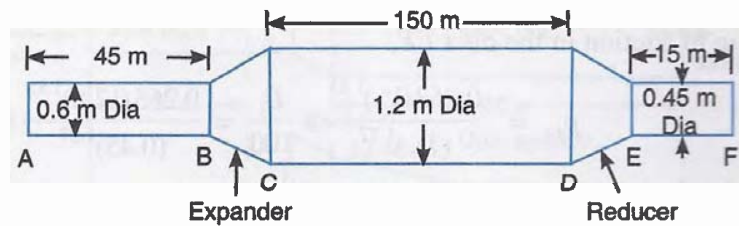

Fig. 20.19
**Example 20.12.** The duct, as shown in Fig. 20.19, is supplied with air at A and discharges freely to atmosphere at F. The duct AB is 0.6 m in diameter and 45 m long, the duct CD is 1.2 m in diameter and 150 m long and the duct EF is 0.45 m in diameter and 15 m long. The velocity of air in duct AB is 600 m/min.